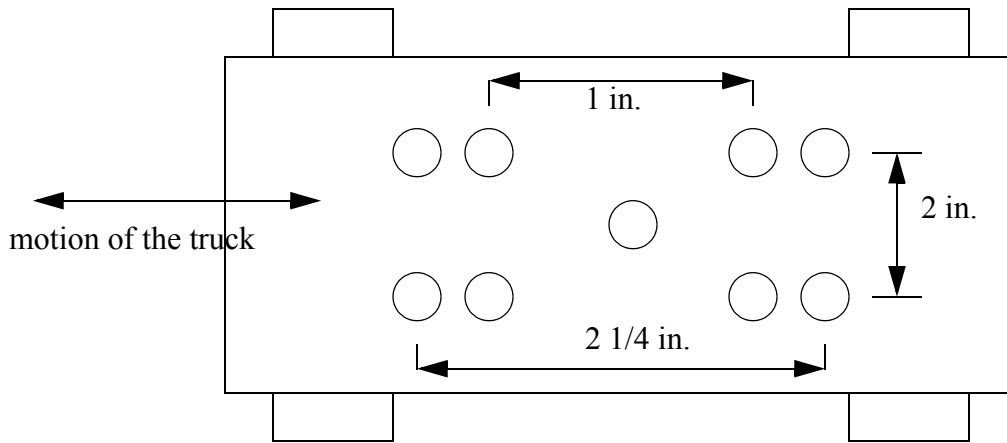

Figure 2 - Truck Mounts
- Both the offense and defense robots are connected to trucks that run on rails. The robots are connected to the trucks as shown in Figure 2. Each of the holes will have a 1/4in by 3in pins (this is not finalized) than can be used to locate the robot below. The truck is intended to follow the robot, not support it. The rails are not to be used for propulsion